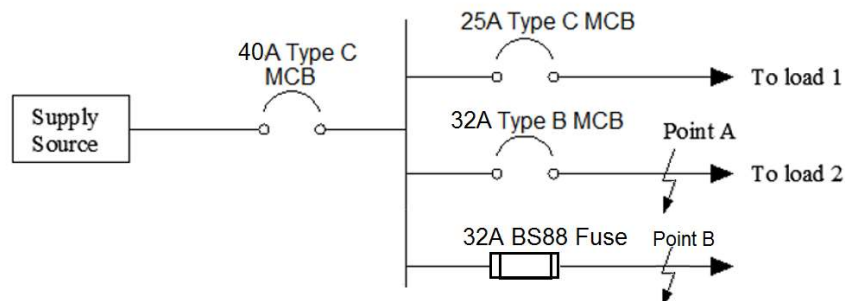

Figure Q5
- 5 An electrical distribution board has a single-line diagram as shown in Figure Q5. Determine the tripping times obtain from the Time/Current curve of the protective devices and state whether discrimination is achieved.